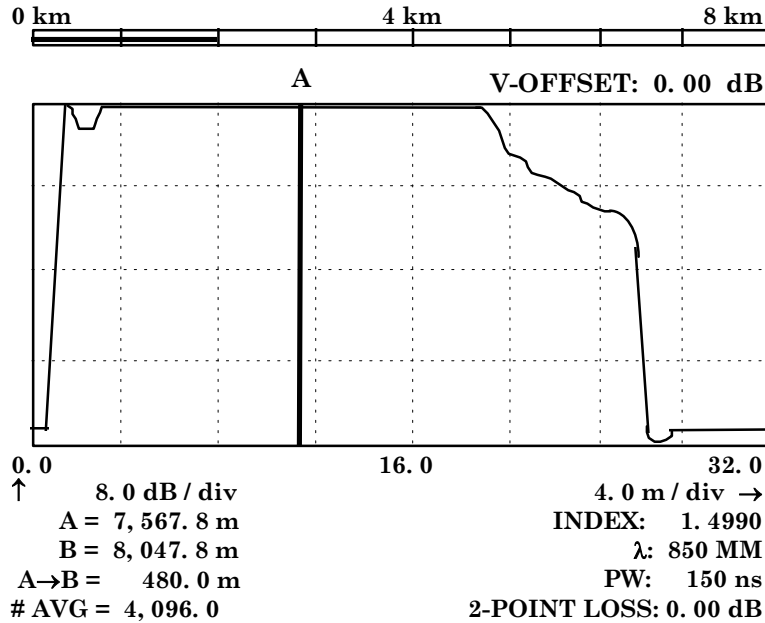
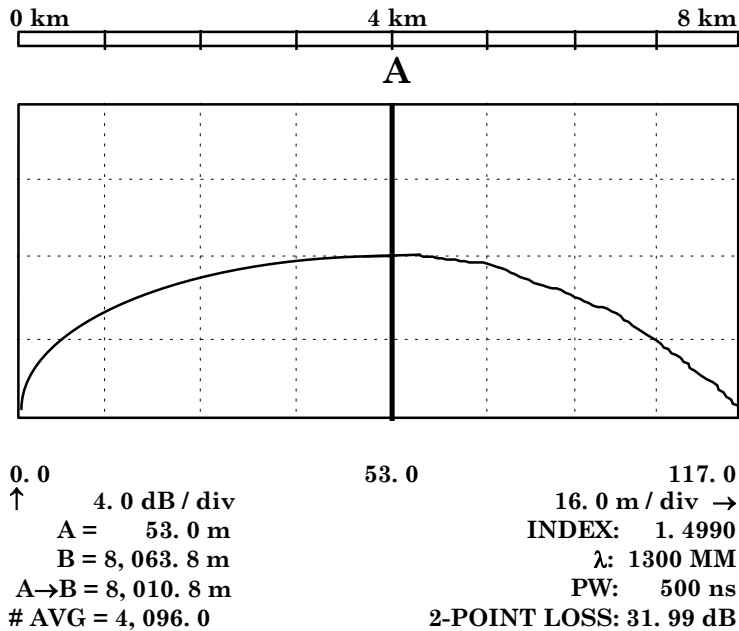

Figure 10. Example of cursor A on approximate middle of *dead zone pulse* with no peak evident (TD-260C shown for example).
Figure 11. Example of cursor A on peak of *dead zone pulse*- (TD260C).
(18) Adjust **CURSOR A** control to place cursor A on peak (or approximate middle if no peak is evident) of TI *dead zone pulse* (fig. 10) or peak of *dead zone pulse* if peak is evident (TD-260C and TD-261C optical modules) (fig. 11). Record **A=** distance indicated on TI display on appropriate Reference Cursor Position Data Sheet (appendix A).